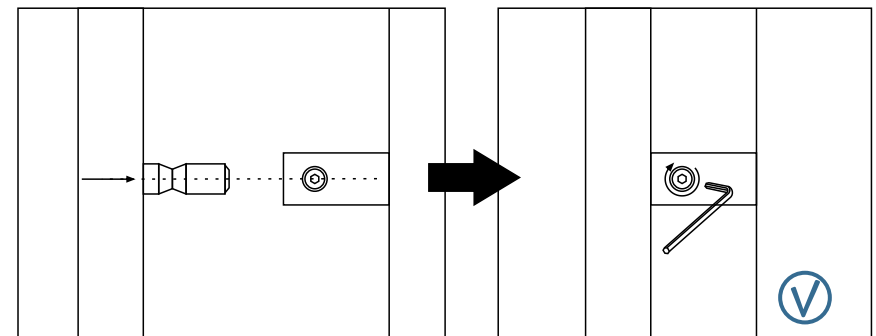

Figure 40
5. Insert the bracket tightly into the mounting holes and tighten the screws (figure 40). Repeat on the back of the door leaf.